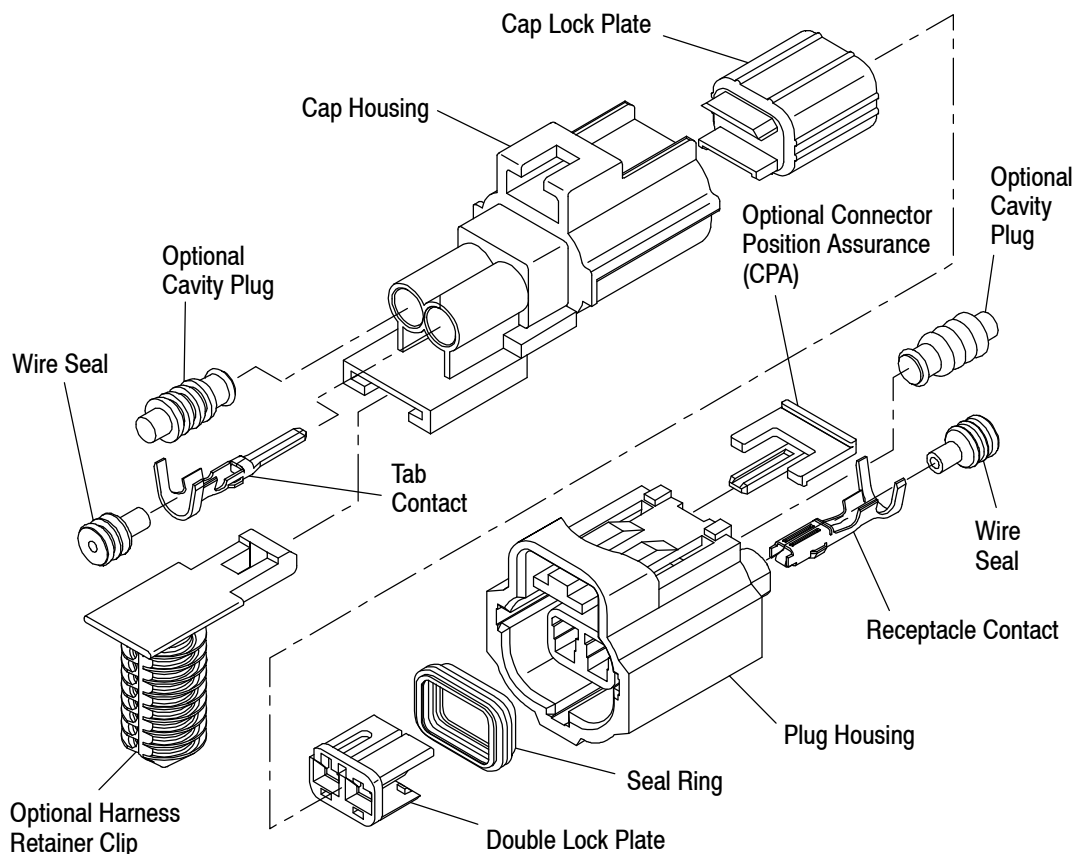

Figure 1
When corresponding with TE Connectivity (TE) Personnel, use the terminology provided on this specification to help facilitate your inquiry for information. Basic terms and features of receptacles are provided in Figure 1.